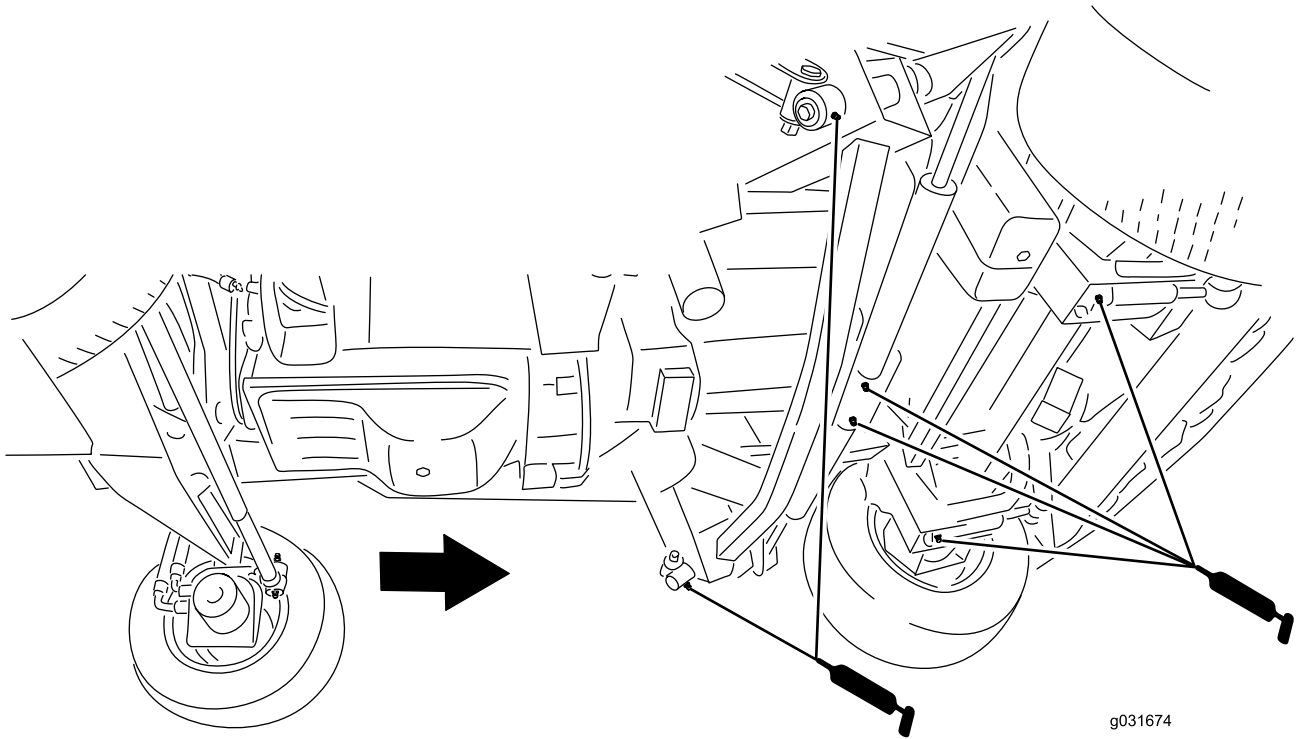

Figure 49
- 2 impact arms (Figure 49)
- 2 front deck-lift-cylinder pivots (Figure 49)
- 2 side deck-lift-cylinder pivots (Figure 49)